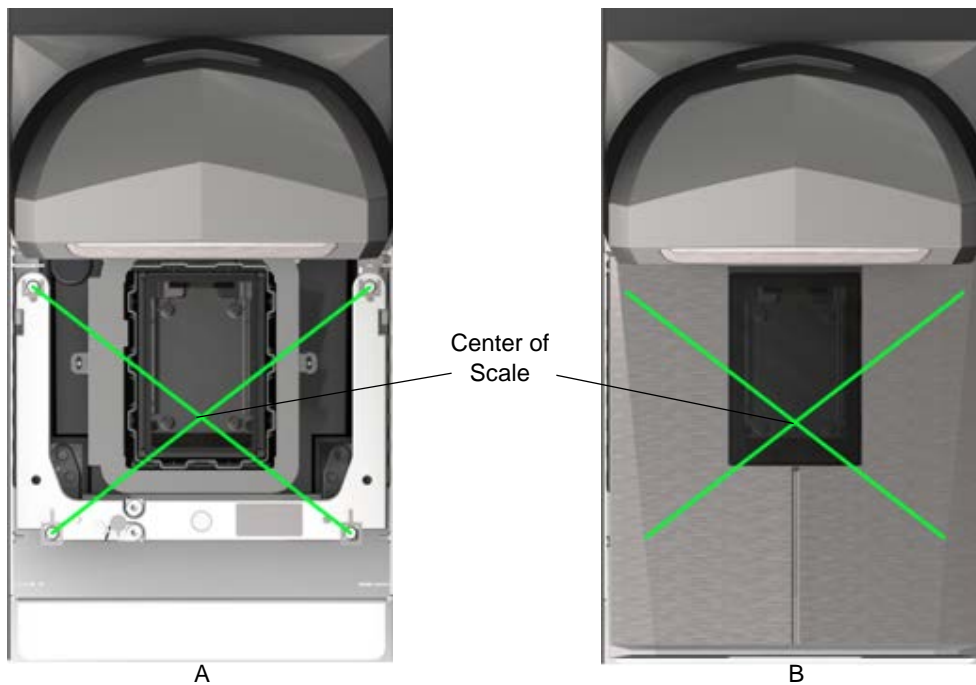

Figure 4-3 (A) Center of Scale Location, and (B) Center of Scale Location with Platter Installed
1. Depending on the units of measure programmed, place 25 lb or 11 kg on the scale. Ideally these weights should be grouped in the center of the scale (Figure 4-3).